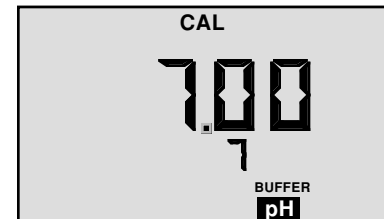

Figure 6
4. Press **CAL MCLR** to enter calibration mode. The “**CAL**”, “**BUFFER**” and “**7**” annunciators will appear (see Figure 6). Displayed value will be the uncalibrated sensor.